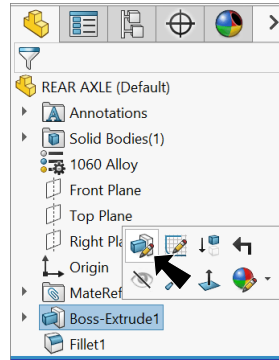

Fig. 14
Step 1. Click **Boss-Extrude1** in the Feature Manager and click **Edit Feature**  in the context toolbar, **Fig. 14**.